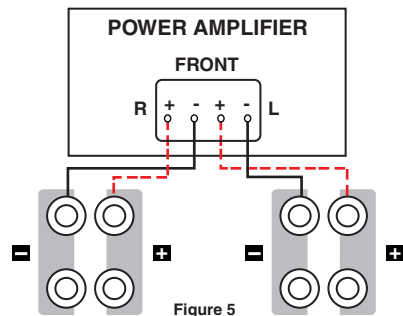

Figure 5
**Note:** To ensure proper performance, make sure that the wire from the red (+) terminal on the speaker is connected to the red (+) terminal on your amplifier or receiver. Likewise, make sure the wire from the black (-) terminal on the speaker is connected to the black (-) terminal on the amplifier or receiver. (Figure 5)